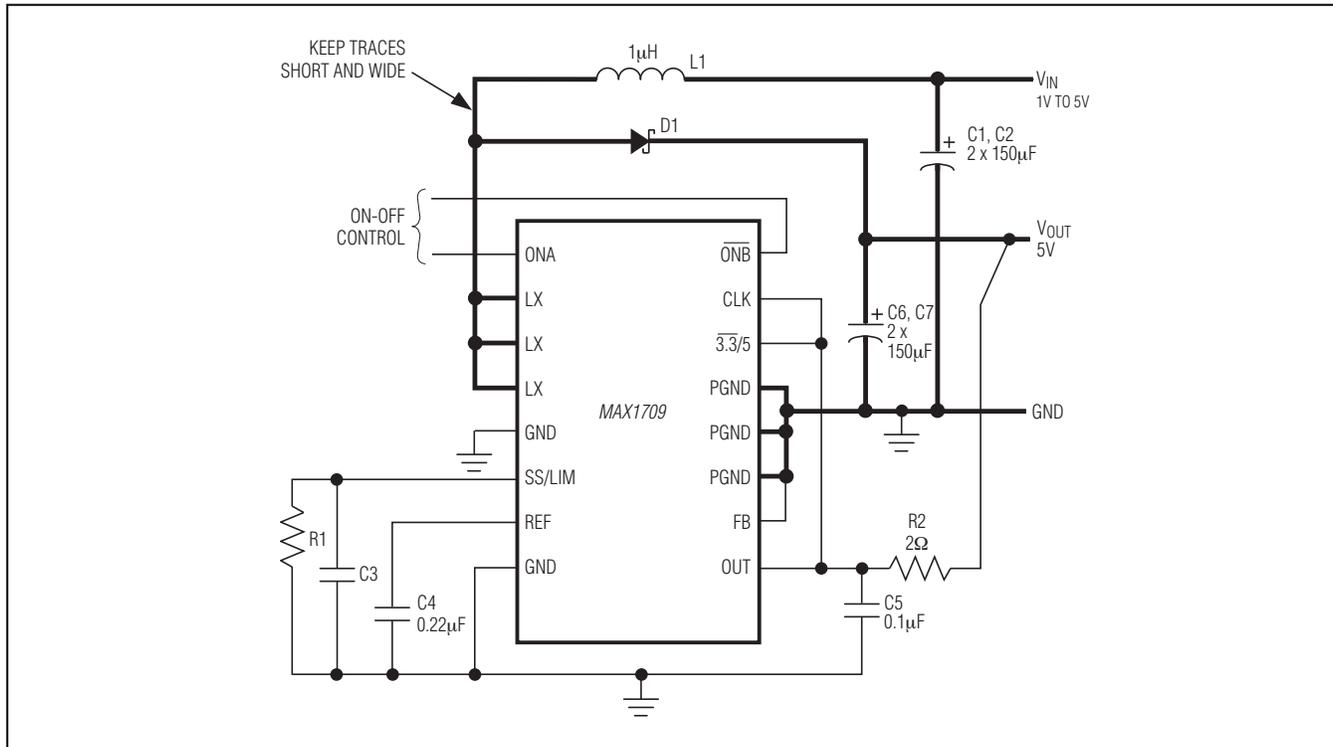
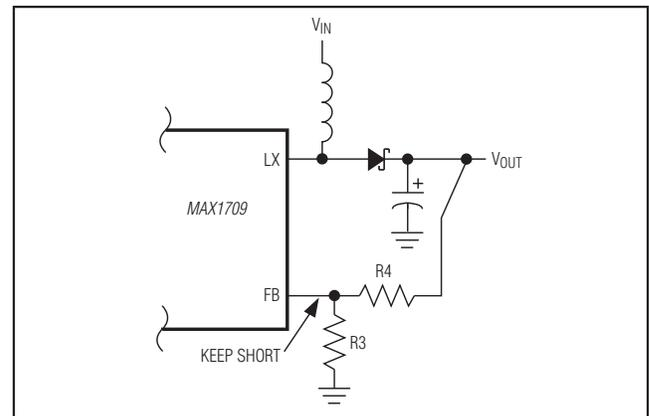

Figure 1. Standard Operating Circuit
Figure 4. Adjustable Output Voltage
**Note 1:** Output voltage is specified at 1A switch current ISW, which is equivalent to approximately 1A × (VIN / VOUT) of load current.**Note 2:** Load regulation is measured by forcing specified switch current and straight-line calculation of change in output voltage in external feedback mode. Note that the equivalent load current is approximately ISW × (VIN / VOUT).**Note 3:** Until undervoltage lockout is reached, the device remains in startup mode. Do not apply full load until this voltage is reached.**Note 4:** Startup is tested with Figure 1's circuit. Output current is measured when both the input and output voltages are applied.**Note 5:** Minimum operating voltage. The MAX1709 is bootstrapped and will operate down to a 0.7V input once started.**Note 6:** Supply current is measured from the OUT pin to the output voltage (+3.3V). This correlates directly with actual input supply current but is reduced in value according to the step-up ratio and efficiency.**Note 7:** ONA and  $\overline{\text{ONB}}$  inputs have approximately 0.15V hysteresis.**Note 8:** Guaranteed by design, not production tested.**Note 9:** Specifications to -40°C are guaranteed by design, not production tested.
on the logic applied to the 3.3/5 input (Figure 1). The output can be configured for other voltages, using two external resistors as shown in Figure 4. To set the output voltage externally, choose an R3 value that is large enough to minimize load at the output but small enough to minimize errors due to leakage and the time constant to FB. A value of R3 ≤ 50kΩ is required.
from its nominal value (see *Electrical Characteristics*). A resistor (R1 in Figure 1) between SS/LIM and ground reduces the current limit as follows:
The output filter capacitor ESR must be kept under 15mΩ for stable operation. Two parallel 150µF polymer capacitors (Panasonic EEFUE0J151R) typically exhibit 5mΩ of ESR. This translates to approximately 35mV of output ripple at 7A switch current. Bypass the MAX1709 IC supply input (OUT) with a 0.1µF ceramic capacitor to GND and connect a 2Ω series resistor to OUT (R2, as shown in Figure 1).
Due to high inductor current levels and fast switching waveforms, proper PC board layout is essential. Protect sensitive analog grounds by using a star ground configuration. Connect PGND, the input bypass capacitor ground lead, and the output filter capacitor ground lead to a single point (star ground configuration). In addition, minimize trace lengths to reduce stray capacitance and trace resistance, especially from the LX pins to the catch diode (D1) and output capacitors (C6 and C7) to PGND pins. If an external resistor-divider is used to set the output voltage (Figure 4), the trace from FB to the resistors must be extremely short and must be shielded from switching signals, such as CLK or LX. Refer to a layout example in the MAX1709EVKIT data sheet.